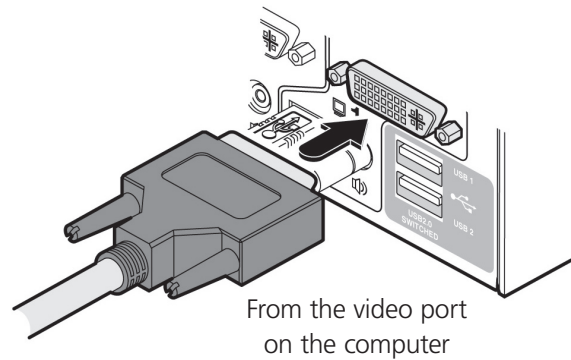

Figure 3-8. Connecting the video output to the DVI-I port.
4. Single-head units: Use a DVI cable or a VGA to DVI-I adapter cable (if using analog signals) to link the video output of the computer's graphic port to the DVI-I port of the required channel on the rear of the unit. See Figure 3-8.